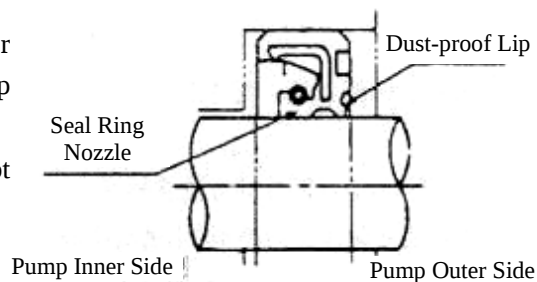

Fig 6-16
a) Oil Seal 14: (Refer to Figs 6-18 and 6-19) Oil seal 14 is a combination seal, and the lip at inner side of the pump shaft plays the sealing function, while the lip at the outer side is mainly for dust resistance (as in Fig 6-16). It is mainly required to examine whether or not crack, wear, or distortion exists with oil seal, and it is also required to examine whether or not the elasticity of rubber is enough, and it shall be replaced once it is out of order.